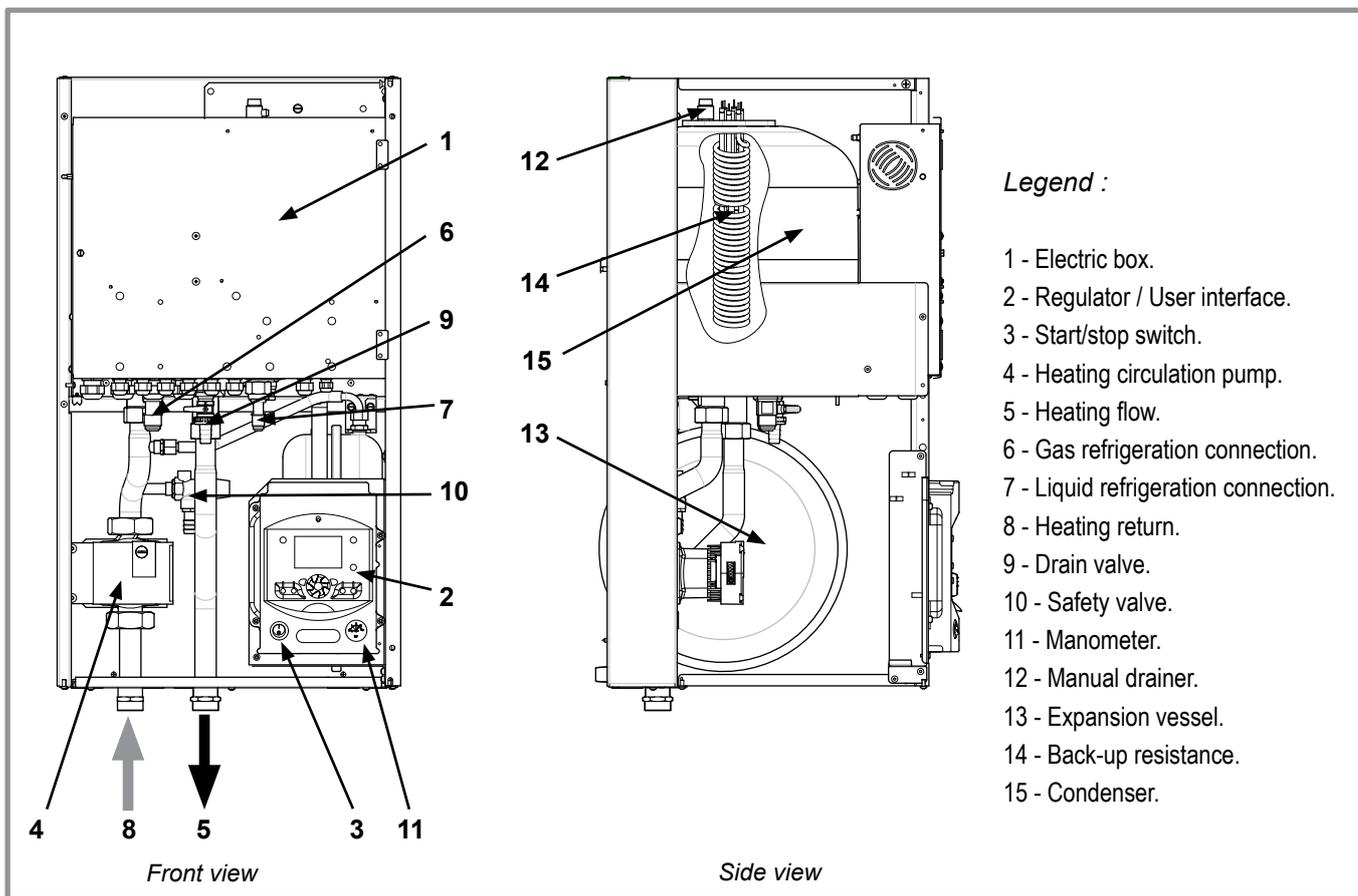

figure 7 - Hydraulic unit components
- In the condenser (ref. **14**, figure 7, page 10) :